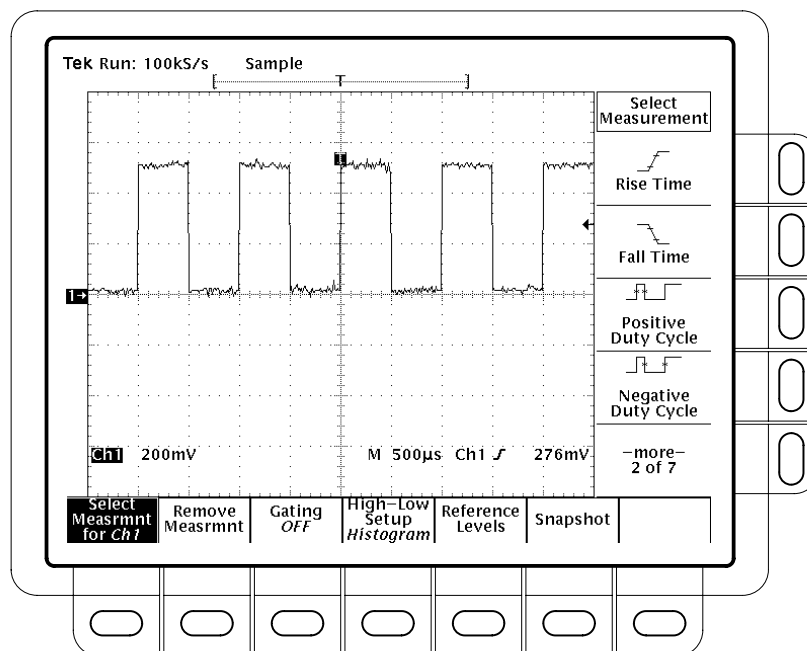

Figure 2–14: Measure Main Menu and Select Measurement Side Menu
4. Press **MEASURE** to display the Measure main menu (see Figure 2–14).